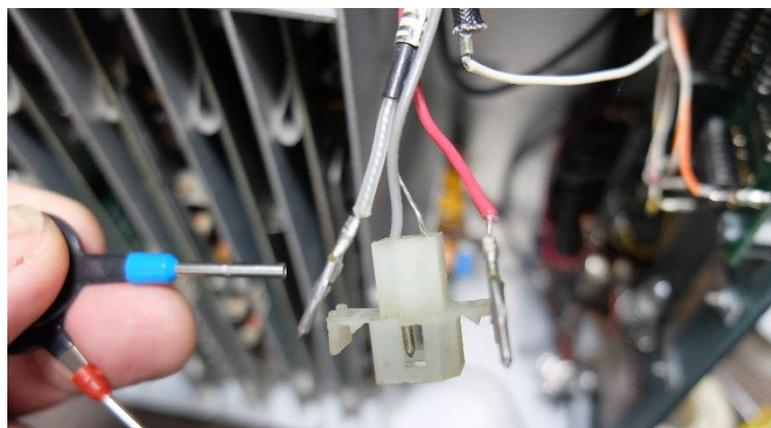

Figure 8 - Pin Removal
- (9) Install the VFO case cover.
- (10) Next is building the connections required for J1 and J2.
- a. Remove the 11Vdc (red) and VFO, coax shield and Buffered Out (coax) pins from the 4-pin connector. See Figure 8.